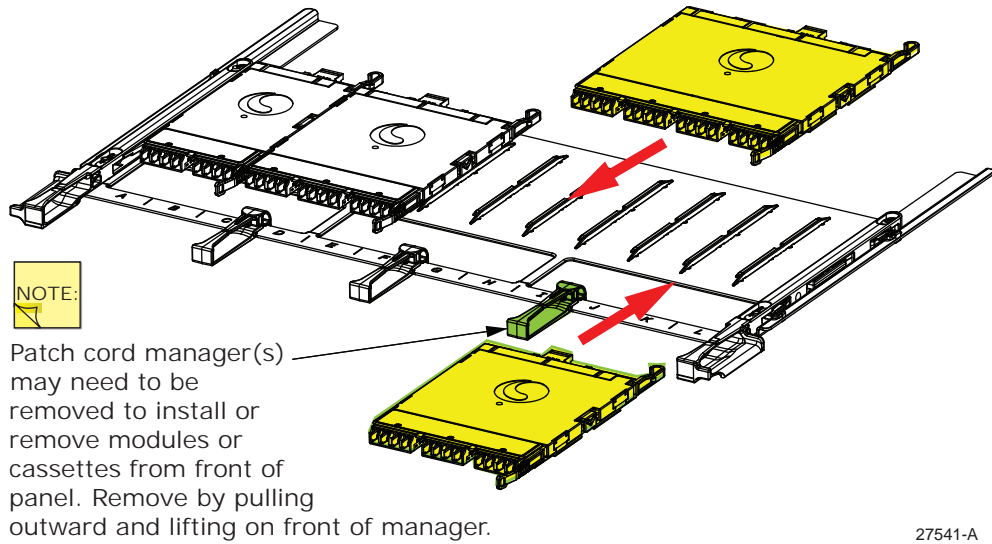

Figure 17. Connection Components Can be Installed from Front or Rear
Use the following procedure, referring to Figure 17.
- Determine whether the component will be installed from the front or rear, as shown in Figure 17. Either option is possible, though connection components with pre-attached or spliced in cables are more easily installed from the rear.
- If the component is being installed from the front, remove any patch cord manager(s) that would prevent the component from being slid in (refer to Figure 17). For instructions on removing a patch cord manager, refer to Section 6.6.2 on Page 33.
When installing a connection component, take care to align the grooves on the bottom of the component with the rails on the blade, as shown in Figure 17 on Page 20.